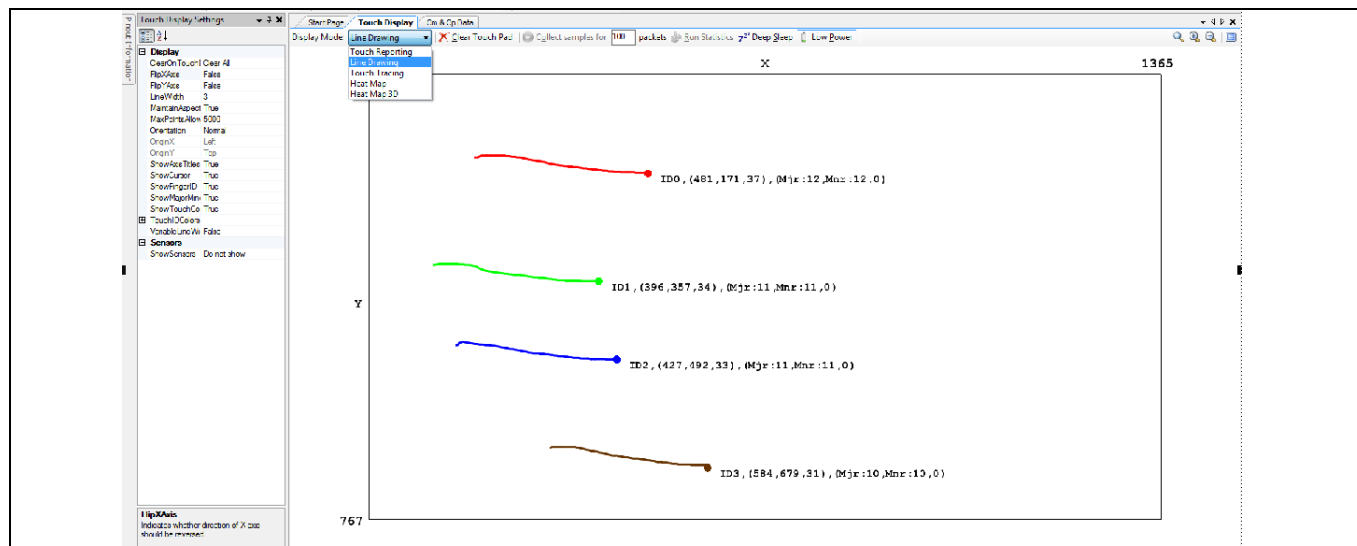

Figure 14 Line drawing mode
14. To enable Line-Drawing mode, select **Line Drawing** from the drop-down menu shown in **Figure 14**.